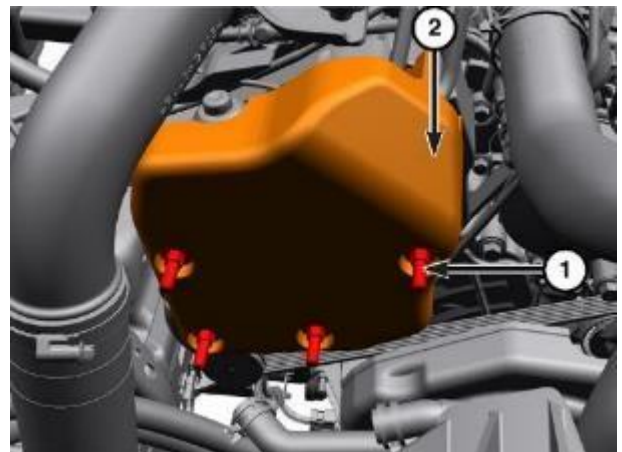

Figure 8 – Pump Sound Proofing
- 15. Remove the bolts (1) securing the sound proofing (2) to the fuel injection pump (Figure 8).